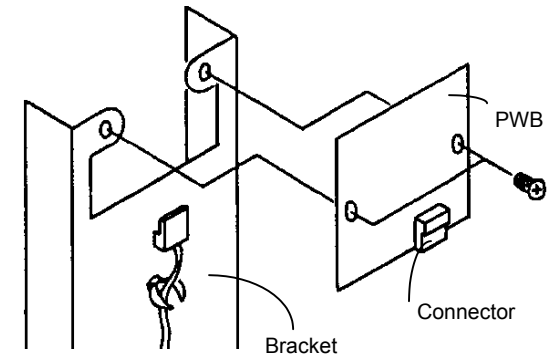

Figure 3. PWB Connector
5. (Figure 3): Connect J 911 to the Transmission PWB.
7. (Figure 3): Connect J 901A to the Receiving PWB.